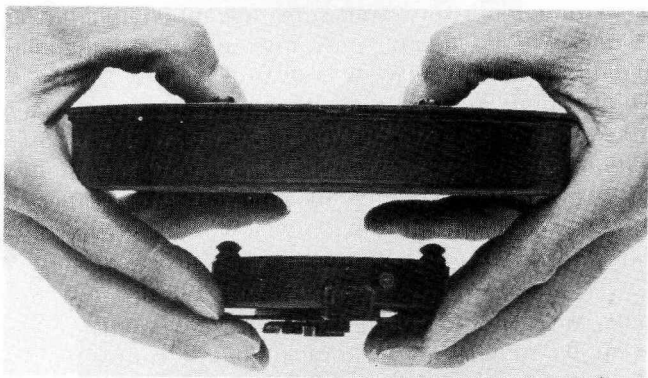

Figure 11
- a. Press your thumbs upon the clips of the magazine winding device and catch it with your fingers (figure 11).